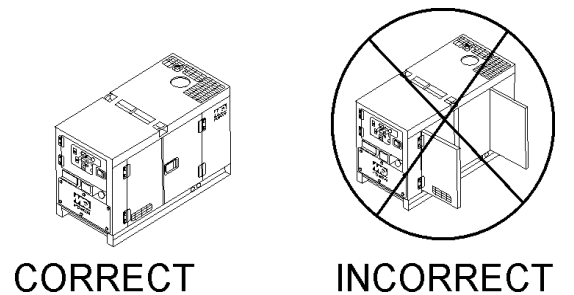

Figure 36. Engine Enclosure Doors
4. Close all engine enclosure doors (Figure 36).